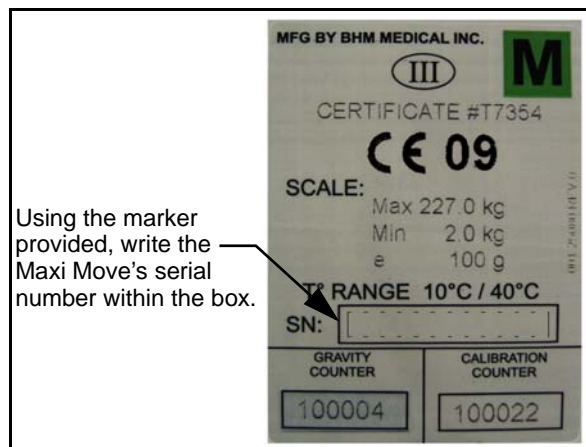

Fig.13
- 1) With the marker supplied in the kit, write the serial number of the Maxi Move on the scale marking label (in the box next to the letters "SN:", as shown in Fig.13).